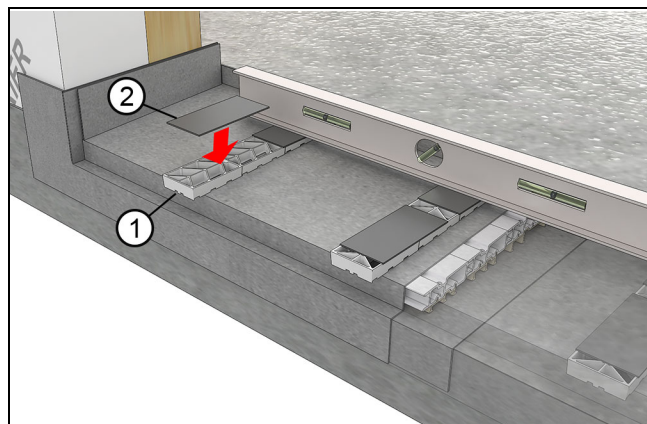

Figure 14 Level counter-shims with stackable shims
4. Check the counter-shim/sill opening for level. If necessary use the 1/16" (3) thick adhesive backed shims (included) to bring the counter-shims to level. See Figure 14.